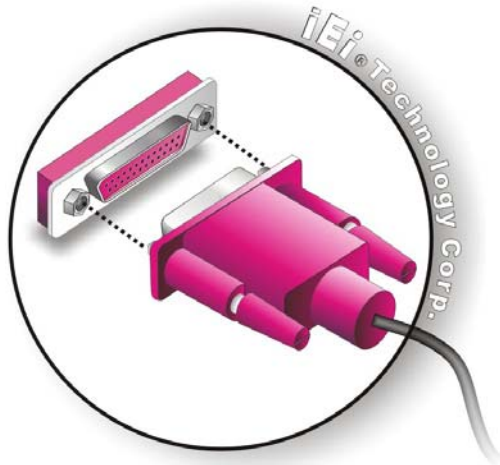

Figure 4-18: Connect the LPT Device
Step 5: Connect LPT device. Once the LPT interface connector is connected to the chassis, the LPT device can be connected to the LPT interface connector. See **Figure 4-18**